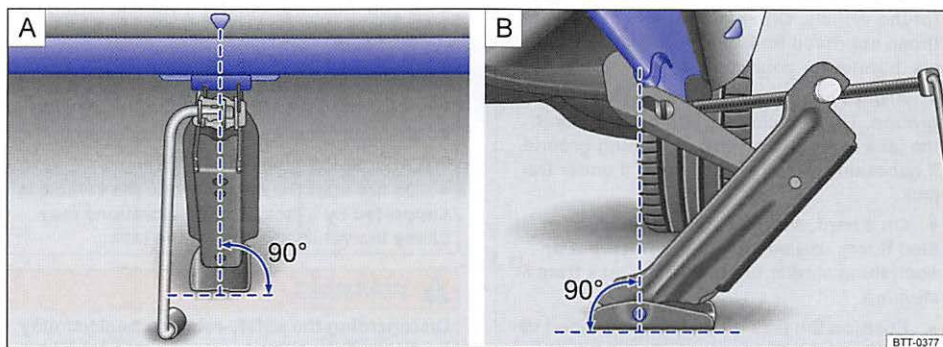

Fig. 163 Jack in position at the left rear lift point.
9. Position the jack so that its base is directly underneath the lift point ⇒ fig. 163, making sure that the entire base of the jack rests securely on the ground.
10. Align the jack and wind up the jack claw at the same time, until the claw cradles the vertical rib underneath the vehicle ⇒ fig. 163 (arrow).
- Position the jack only at the described vehicle lift points. Before you raise your vehicle, always make sure the jack claw properly grips the vertical rib under the sill so that the jack does not slip off when you are raising the vehicle ⇒ fig. 163.